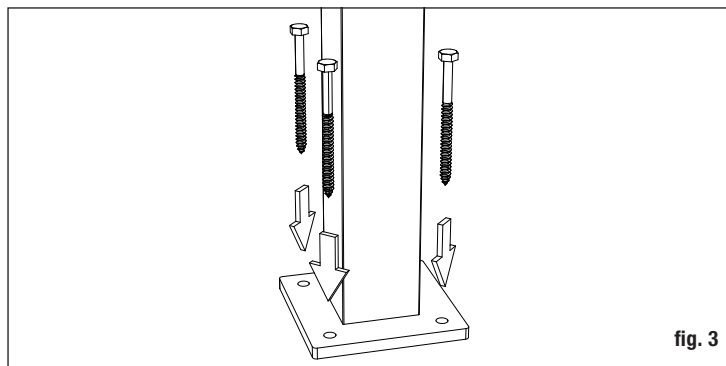

fig. 3
Step 2: Position the post assembly onto the location where it will attach to the deck. Four 3/8" diameter mounting holes are provided on the base. When the final position is determined, mark the base hole locations. Remove the post assembly and drill 15/64" holes in the marked locations through the decking and into structural blocking (fig. 3).